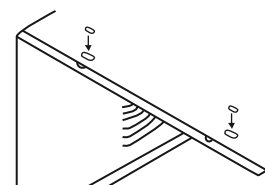

Fig.6
9. Add two foam inserts to holes in top of cabinet where shipping screws were removed from (see Fig.6).
1. Attach foam gasket to top angle above holes as shown in Fig.6.